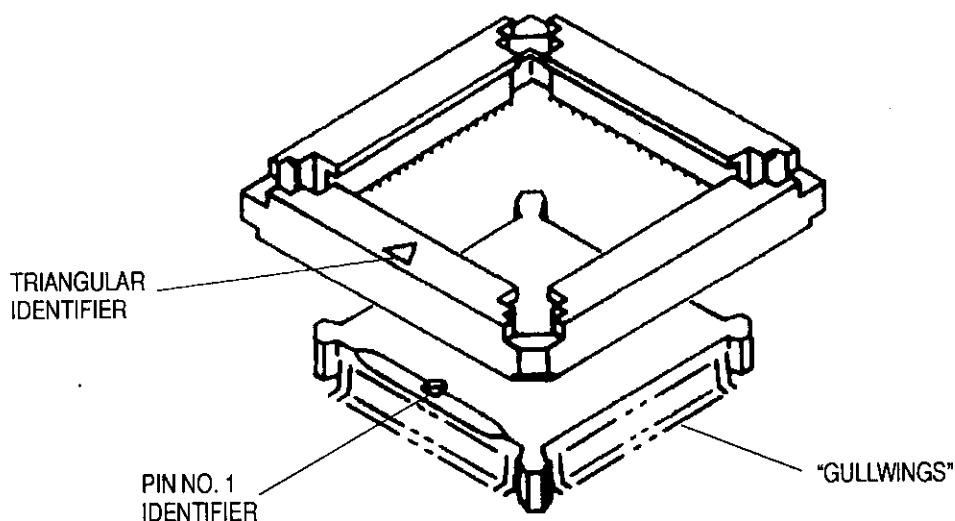

Figure 2
2. Place cover over PQFP, aligning triangular identifier on cover with "pin No. 1" identifier on PQFP. See Figure 2.